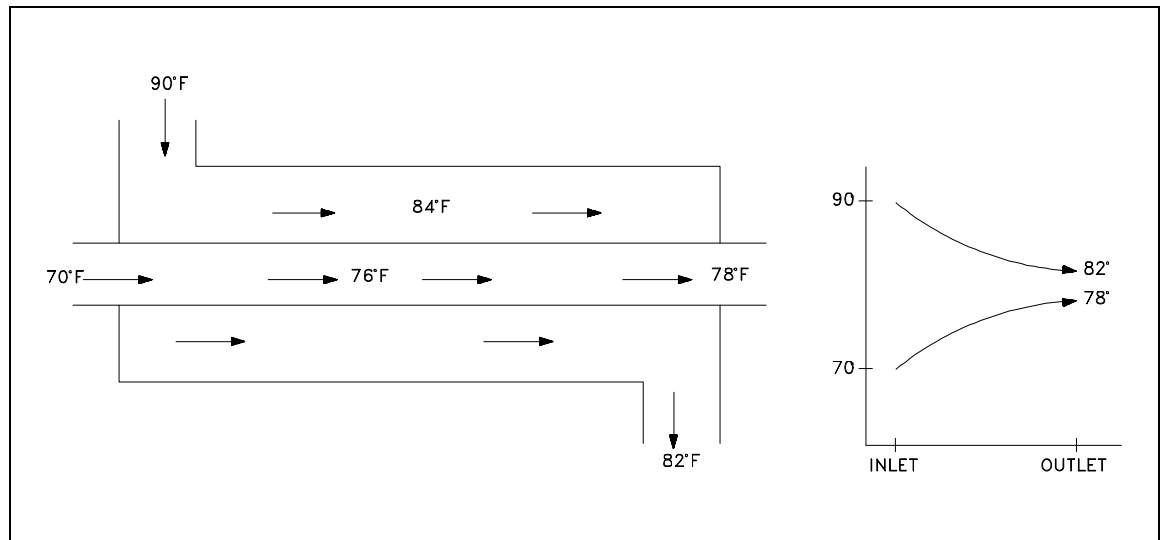
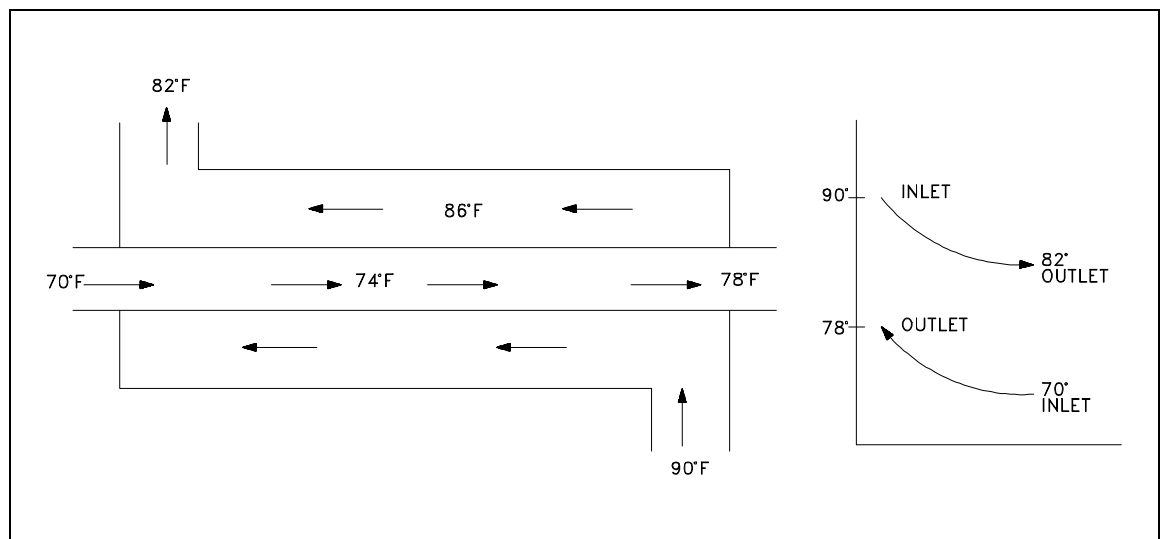
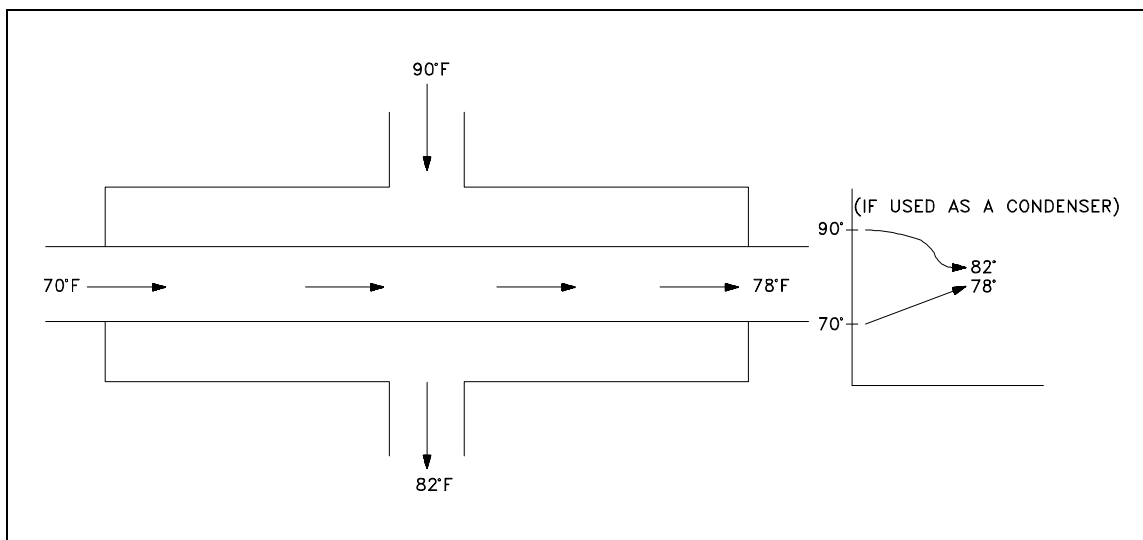

Figure 3 Parallel Flow Heat Exchanger
Figure 4 Counter Flow Heat Exchange
Figure 5 Cross Flow Heat Exchanger
*Parallel flow*, as illustrated in Figure 3, exists when both the tube side fluid and the shell side fluid flow in the same direction. In this case, the two fluids enter the heat exchanger from the same end with a large temperature difference. As the fluids transfer heat, hotter to cooler, the temperatures of the two fluids approach each other. Note that the hottest cold-fluid temperature is always less than the coldest hot-fluid temperature.
*Counter flow*, as illustrated in Figure 4, exists when the two fluids flow in opposite directions. Each of the fluids enters the heat exchanger at opposite ends. Because the cooler fluid exits the counter flow heat exchanger at the end where the hot fluid enters the heat exchanger, the cooler fluid will approach the inlet temperature of the hot fluid. Counter flow heat exchangers are the most efficient of the three types. In contrast to the parallel flow heat exchanger, the counter flow heat exchanger can have the hottest cold-fluid temperature greater than the coldest hot-fluid temperature.
*Cross flow*, as illustrated in Figure 5, exists when one fluid flows perpendicular to the second fluid; that is, one fluid flows through tubes and the second fluid passes around the tubes at 90° angle. Cross flow heat exchangers are usually found in applications where one of the fluids changes state (2-phase flow). An example is a steam system's condenser, in which the steam exiting the turbine enters the condenser shell side, and the cool water flowing in the tubes absorbs the heat from the steam, condensing it into water. Large volumes of vapor may be condensed using this type of heat exchanger flow.
Each of the three types of heat exchangers has advantages and disadvantages. But of the three, the counter flow heat exchanger design is the most efficient when comparing heat transfer rate per unit surface area. The efficiency of a counter flow heat exchanger is due to the fact that the average  $\Delta T$  (difference in temperature) between the two fluids over the length of the heat exchanger is maximized, as shown in Figure 4. Therefore the log mean temperature for a counter flow heat exchanger is larger than the log mean temperature for a similar parallel or cross flow heat exchanger. (See the Thermodynamics, Heat Transfer, and Fluid Flow Fundamentals Handbook for a review of log mean temperature). This can be seen by comparing the graphs in Figure 3, Figure 4, and Figure 5. The following exercise demonstrates how the higher log mean temperature of the counter flow heat exchanger results in a larger heat transfer rate. The log mean temperature for a heat exchanger is calculated using the following equation.